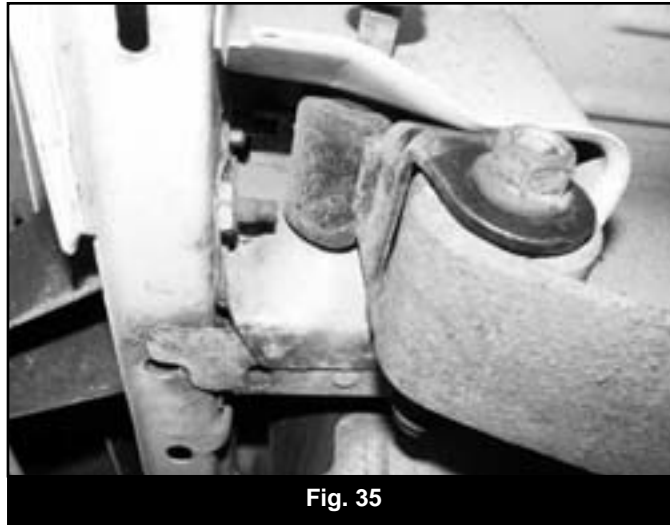

Fig. 35
15. Locate the bumper bolt that is protruding into the shackle pocket (Fig 35). This bolt will contact the new larger shackle through suspension travel. The bolt can either be cut off flush with the welded nut on the body or removed.